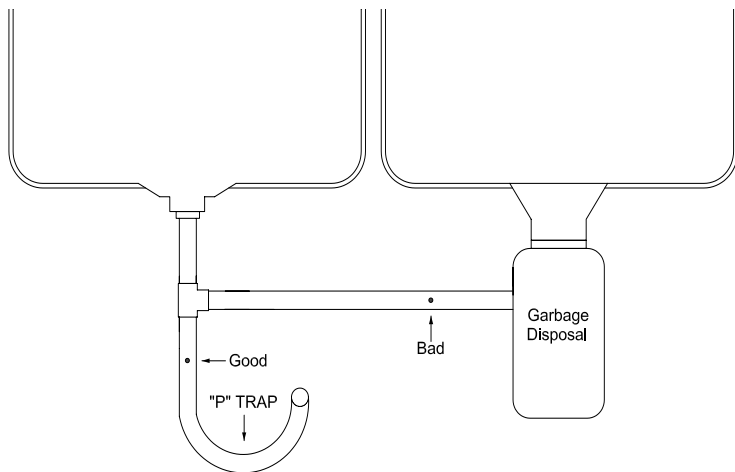

Figure 4: Drain Saddle Mounting Locations
1. Refer to Figure 4 and determine the location for the drain saddle assembly and drain hole. It must be located above the "P" trap ("U" shaped bend in drain pipe) on the sink side of the drain pipe.